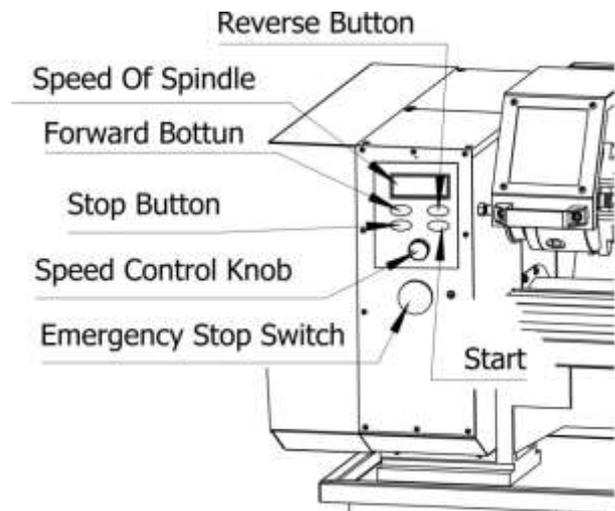

Figure 6: Main lathe control for test run
2. Familiarize yourself with the lathe controls shown in **Figure 6**. Make sure the STOP button is all the way down before continuing.